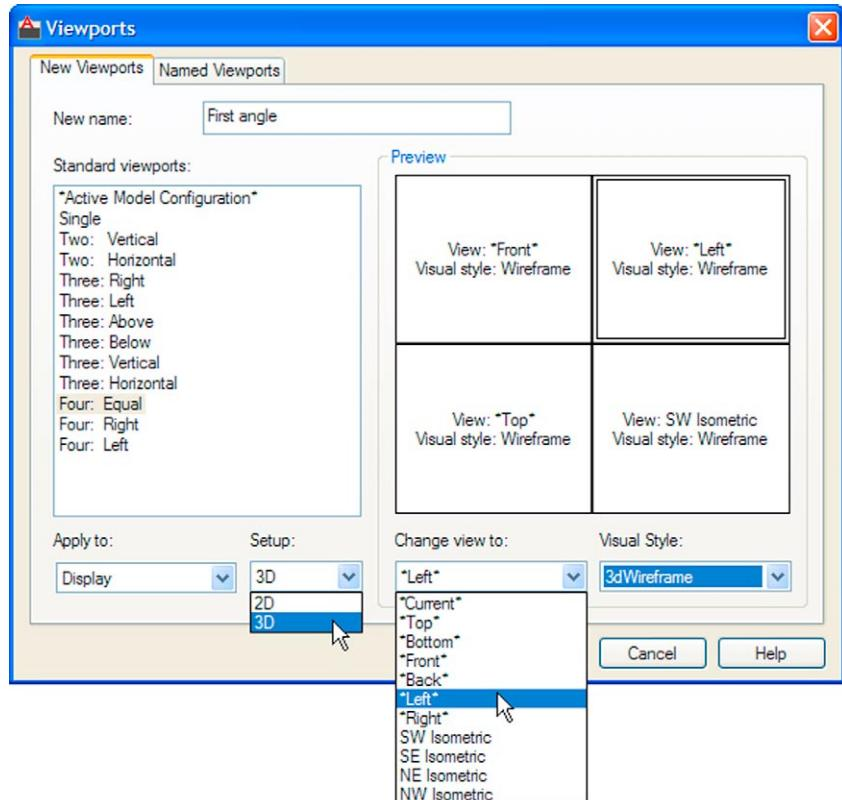
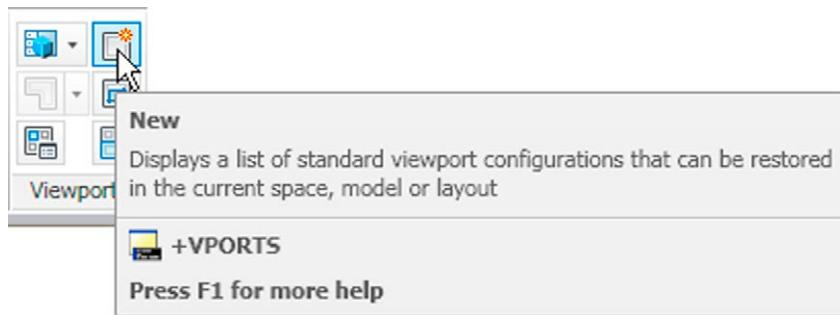

Fig. 13.5 The **Viewports** dialog set for a **3D first angle Four: Equal** setting
Fig. 13.6 Selecting **New** from the View/Viewports panel
If a **first angle** layout is needed it will be necessary to open the **Viewports** dialog (Fig. 13.5) with a *click* on the **New** icon in the **View/Viewports** panel (Fig. 13.6). First select **Four: Equal** from the **Standard viewports** list; select **3D** from the **Setup** popup menu; *click* in the **top right** viewport and select **Left** in the **Change View** popup list; *enter first angle* in the **New name** field. Change the other viewports as shown. Save the settings with a *click* on the **Named Viewports** tab and *enter* the required name for the setup in the sub-dialog which appears.
3. Using the **Polyline** tool, construct the outline of the plan view of the plate of the support, including the holes in the **Top** viewport (Fig. 13.5). Note the views in the other viewports.